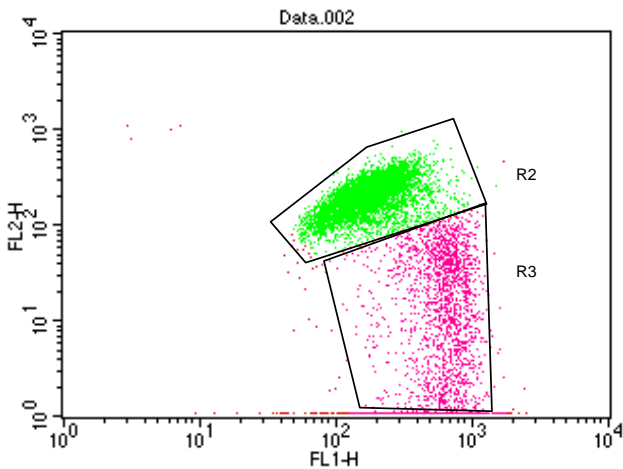

Figure 2: Positive cell control, Log FL1 (X-axis) and log FL2 (Y-axis) R2 = 60.93% R3 = 38.13%.
6. Using the same PMT settings established for the non-induced negative control sample in Step 3, run the induced positive sample. If a change in mitochondrial $\Delta\Psi$ has occurred, an increase in the number of cells falling in R3 is observed as shown in Figure 2.